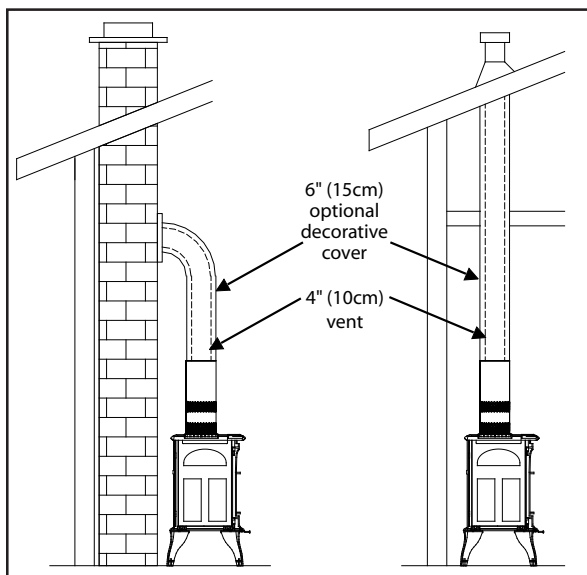

Figure 40: Unit top venting styles.
This unit may be vented to an existing masonry chimney, or where no masonry chimney is available, an approved "B-vent" chimney, or any other approved constructed chimney/vent system (see Figure 40 & 41).
2. Disconnect the spill switch wires from the valve and on/off/remote rocker switch wire (see Figure 40).